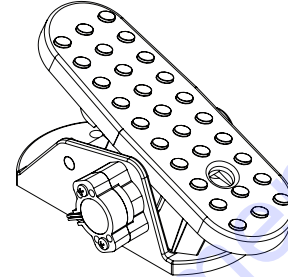

Figure 24. Blade Speed Control Foot Pedal
1. The foot pedal (Figure 24) solely controls blade speed. The position of the foot pedal determines the blade speed. Slow blade speed is obtained by slightly pressing the pedal. Maximum blade speed is obtained by fully pressing the pedal.